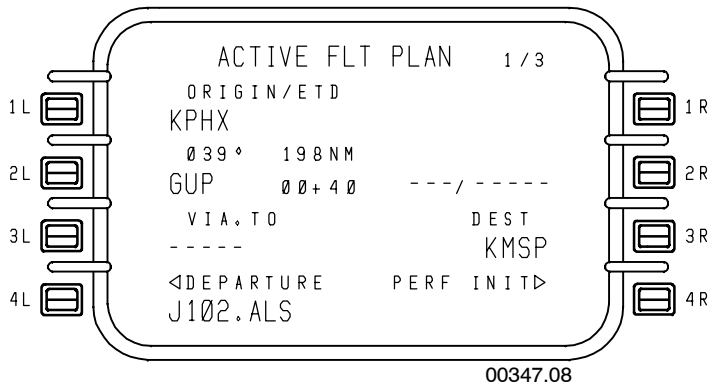

Figure 7-9
- **Airway** – Any airway in the data base can be entered. When entering an airway, the waypoint in the flight plan preceding the point of entry must be a waypoint on the airway. The airway entry is made in the format of the VIA.TO prompt where VIA is the airway identifier and TO is the last waypoint to be used on the airway. For example, a portion of the flight plan is GUP, J102 to ALS. The first step is to insert GUP into the flight plan. This is followed by entering J102.ALS into the scratchpad. This is shown in Figure 7-9. The entry is completed by selecting 3L and the FMS automatically fills in all the waypoints along the airway from GUP up to and including ALS. The